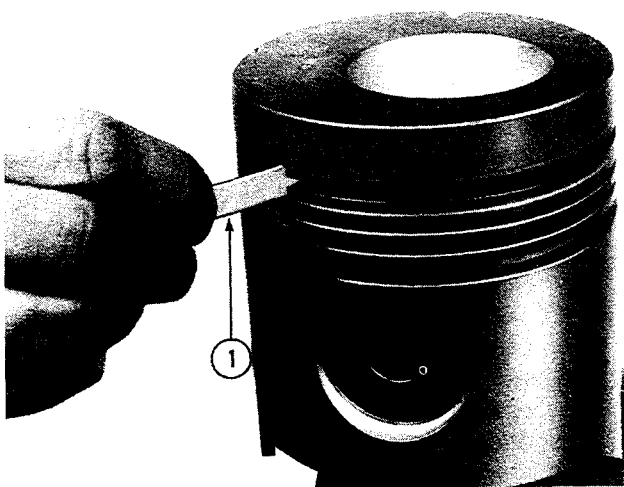

Figure 45
2. Check for wear at the top ring by measuring the ring groove with a 1/8 in. - 150 "keystone" gauge. If the shoulders of the gauge contact the face of the piston, Figure 45, the groove is worn beyond serviceable limits and the piston must be replaced. If the special gauge is not available, insert a new keystone ring in the groove and place a 0.006 in. feeler gauge between the top of the ring and the ring groove. If the feeler gauge can be inserted to the depth of the ring, the groove is excessively worn and the piston should be replaced.